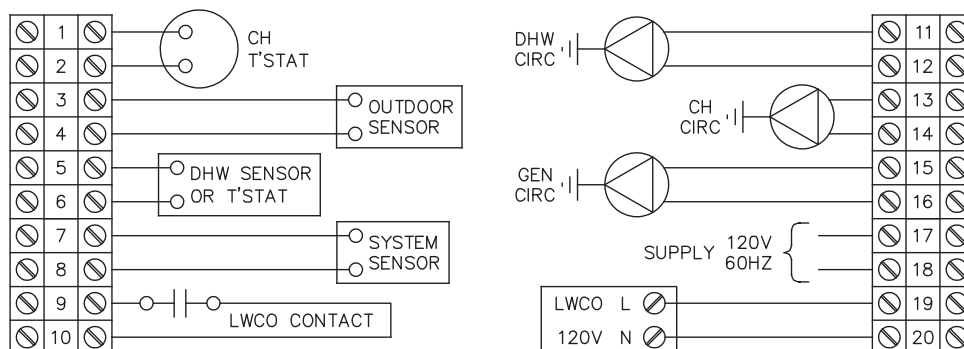

Figure 7.2: Customer Connections – PF-50, PF-80, PF-100 & PF-140
3. Figure 7.2 shows customer connections for the PF-50, PF-80, PF-110 and PF-140 boilers.